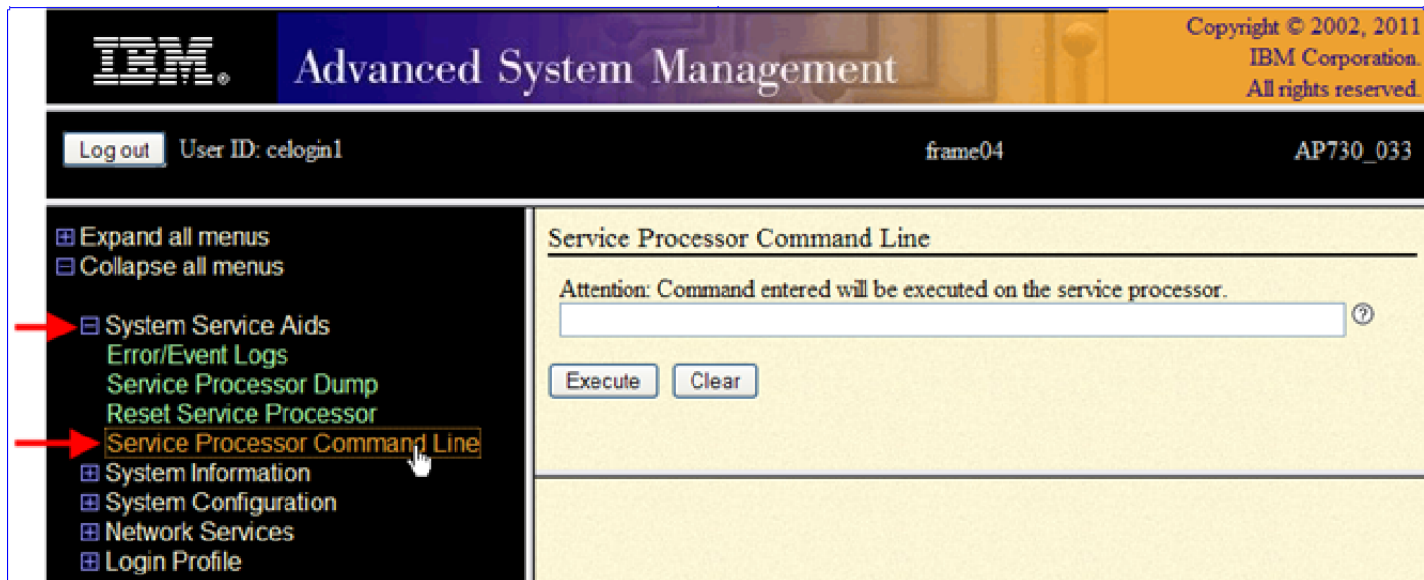

Figure 63 ASM Service Processor Command Line
10. Expand ‘System Service Aids’ + sign and Select ‘Service Processor Command Line’ to obtain Figure 63.